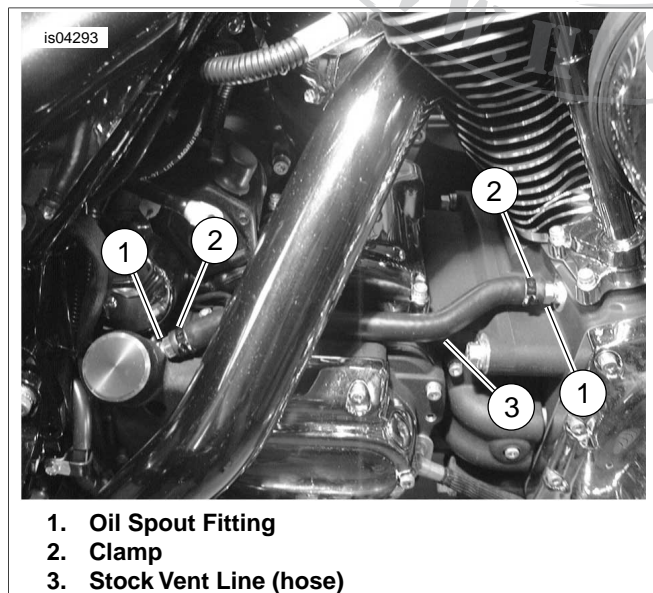

Figure 1. Removing Stock Vent Line
- See Figure 1. Remove (cut) the steel clamps (2) securing each end of the stock vent line (hose) (3) to the fittings (1).